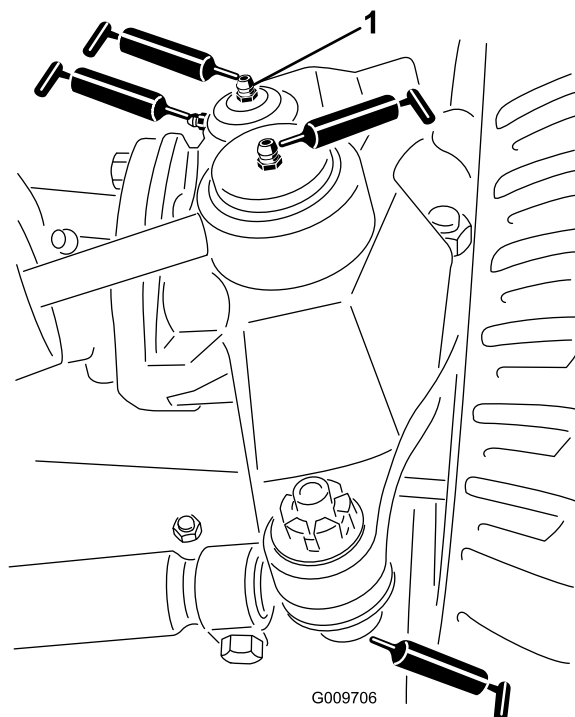

Figure 69
- Steering cylinder ball joints (2), refer to Figure 69
- Tie rod ball joints (2), refer to Figure 69
- King pin bushings (2), refer to Figure 69.